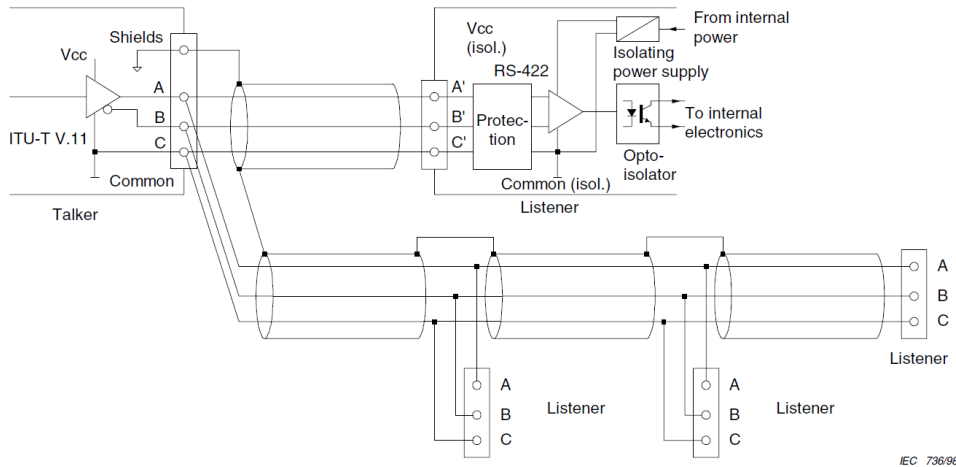

Figure 11: IEC 61162-2 Circuits
- One talker (Tx side, commonly a sensor such as GPS) may be connected to one or more listeners (Rx side, e.g. displays or computer systems such as ECDIS). The circuit looks as shown in *Figure 11: IEC 61162-2 Circuits* on page 16.